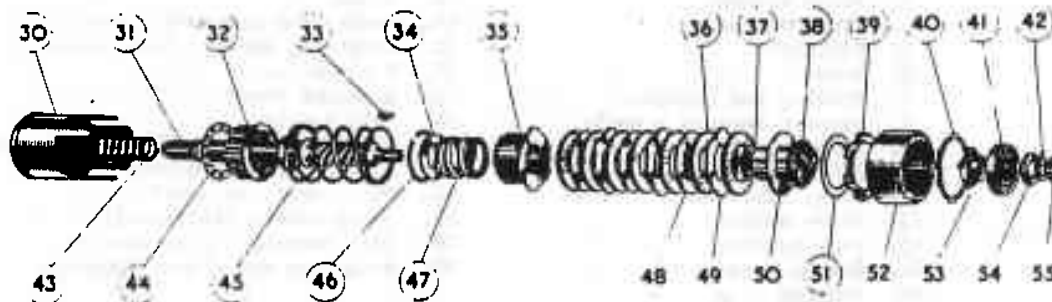

FIG. M10. DRIVE DISMANTLED.
2. Mount drive vertically in vice, remove lock washer (42, Fig. M10) and ring nut (55).
Locally manufacture a torque arm from a piece of mild steel 15" long (approximately), drilled and filed at one end to leave two or three projections in the form of teeth to engage with the teeth of the pinion (Fig. M10). A small hole should be drilled at the other end, to engage hook of spring balance, having 12" between hole centres.